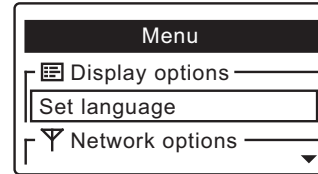

FIG. 45
6. If the remote does not already show a menu screen, press the remote’s SELECT (O) button to display a **Menu** screen. (See Figure 45 on the next page).
1. If no device has been added to the remote, the menu shown in Figure 45 is displayed instead of status screens. In this case, skip to step 2. Otherwise, if status screens are shown, press the remote's SELECT (O) button to display a **Menu** screen (See Figure 45).